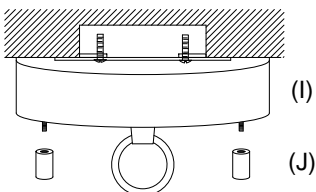

Fig 4
Fix the canopy (I) onto the bracket with cap nut (J) provided (Fig. 4).